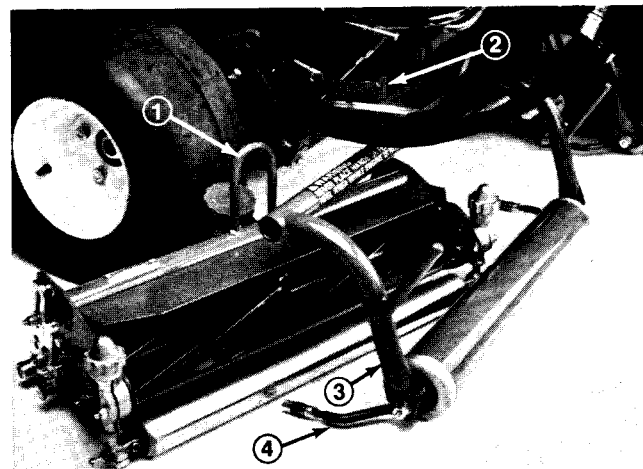

Figure 23
4. Slide cutting unit out from under pull frame, disengaging the lift arm from the lift bail (Fig. 23).